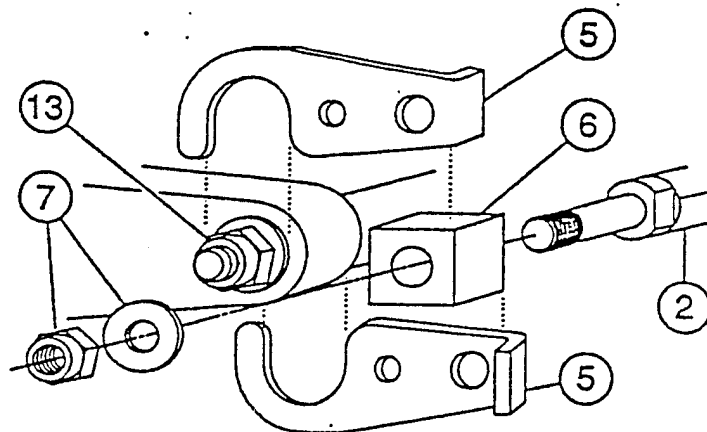

Fig 3 - Securing Rod-End Plates
- (item 1) remains parallel and aligned with steering cylinder while tightening.
- Assemble Rod End Plates (item 5) and square Spacer (item 6) as shown in fig. 3. Locate plates on both sides of cylinder support bracket (item 8), one around cylinder rod (item 12) and the other over the rod end nut and washer (item 13). The tabs on plates must face each other.
To Set Zero Position: Place the outboard engine to the midship (straight ahead) position. With the Autopilot powered ON, go to "Rudder-angle Display" setting. With a 1/2" wrench on Rod End flats (Item 2 - fig. 3), rotate Rod until Autopilot Display reads a 'zero' setting. Refer to your Autopilot Manual for your type of zero indication. Hold wrench on Rod flats and tighten Rod End Nut securely. Check Autopilot Display and confirm that if the rudder is moved to Starboard, a Starboard rudder angle is displayed. Select Pilot Mode on your Autopilot and confirm that the rudder settles down to the midship position after some time.